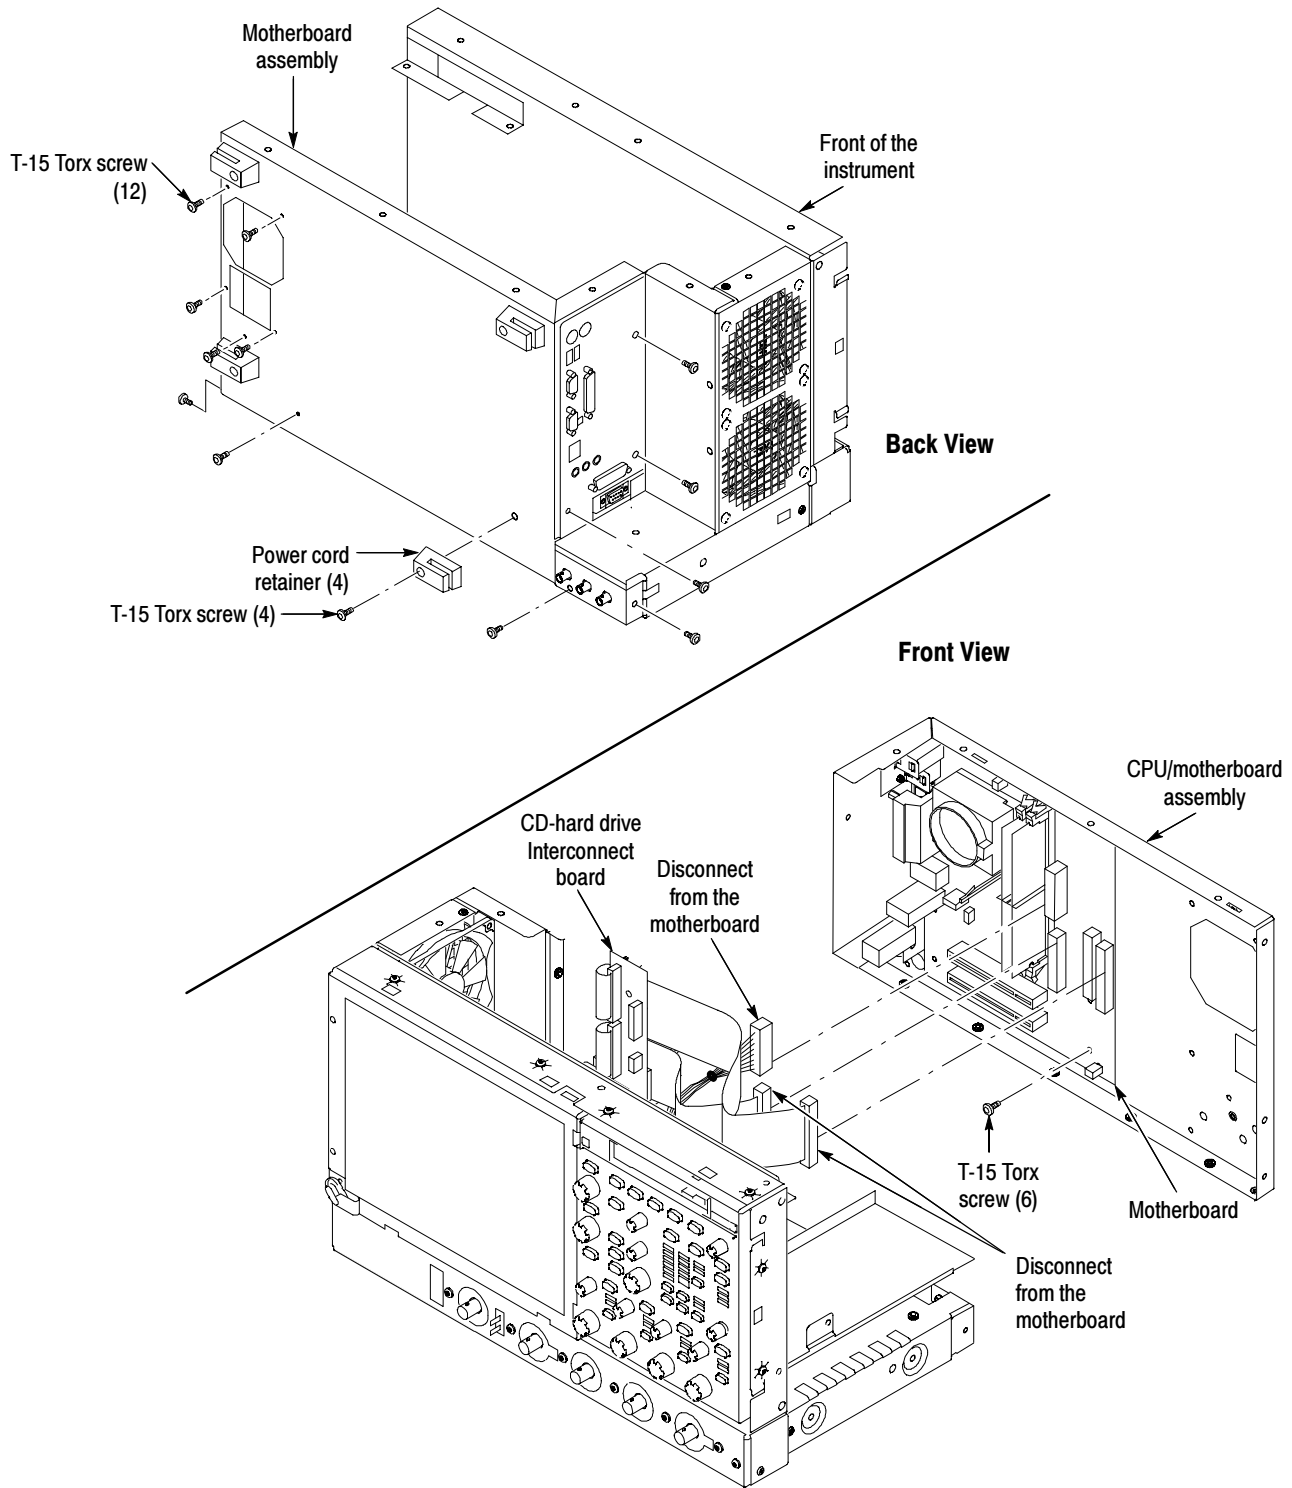

Figure 11: CPU/motherboard removal
2. *Remove the Motherboard assembly:* See Figure 11, on page 18.